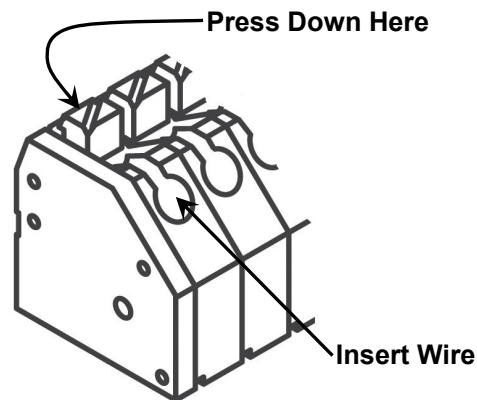

Figure No. 5
4. Connect each of the wires to terminal block P2 referring to labels on circuit board for terminal connections. Refer to Figure No. 5 for terminal block location.